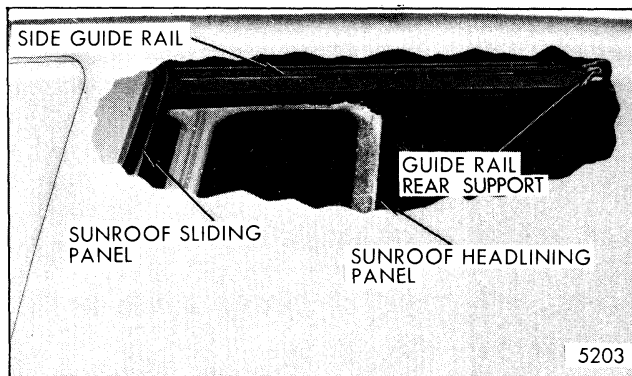

Fig. 8-46-Sunroof Panel Headlining Engagement in Side Guide Rail
2. Align headlining panel with side guide rail lower channels and move rearward into sunroof housing (Fig. 8-46).
**NOTE:** If removal of side guide rail is desired, pull same forward for disengagement from guide rail rear support (Fig. 8-46).